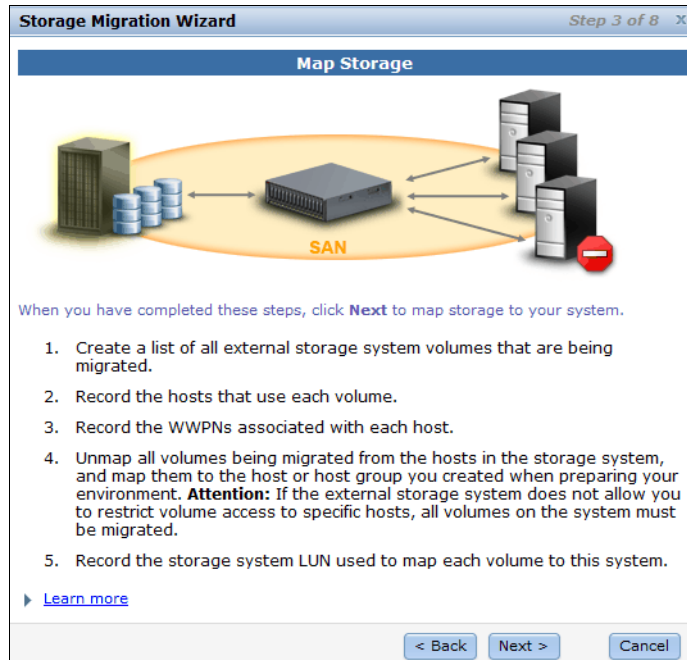

Figure 7-12 Storage Migration Wizard step 3 - Map Storage
3. The Step 3 of the Storage Migration Wizard is to complete the mapping of external storage LUNS (Figure 7-12 on page 277). Make sure that you record the information mentioned in this step, as you need it for later steps. Click **Next**.